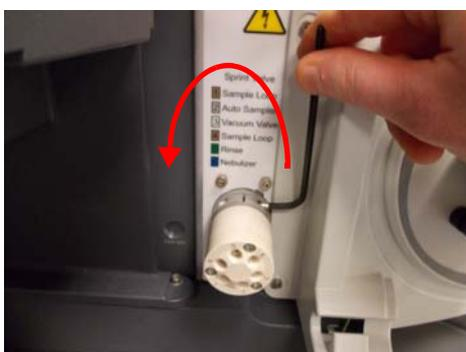

Figure A-21. Loosening the hex screw
2. Using the provided 9/64 inch hex wrench, loosen the hex screw on the locking collar, which secures the base of the valve to the instrument. See Figure A-21.